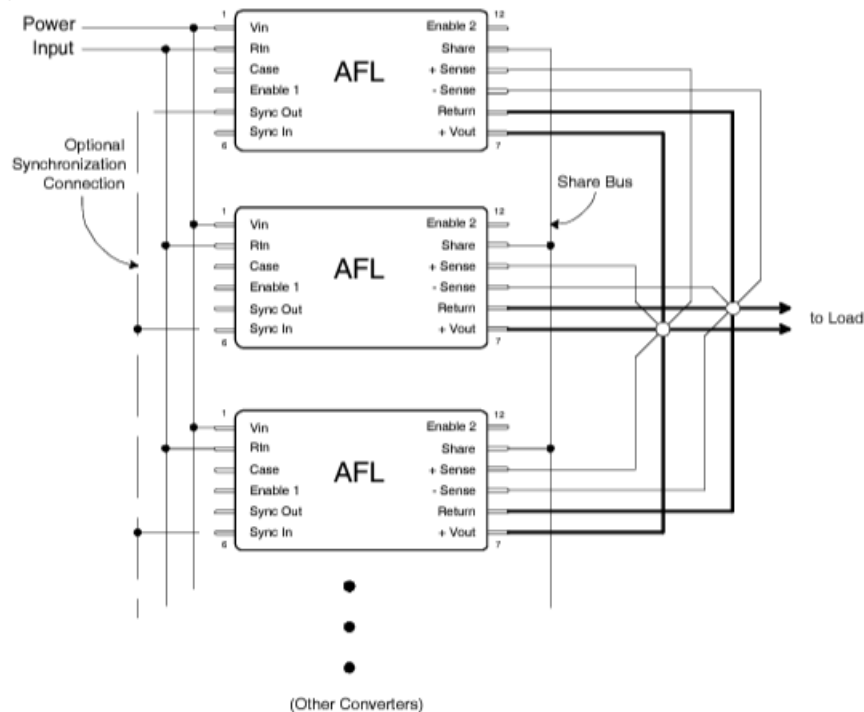

Figure 3. Preferred Connection for Parallel Operation
Connection of the + and - sense leads at a remotely located load permits compensation for resistive voltage drop between the converter output and the load when they are physically separated by a significant distance. This connection allows regulation to the placard voltage at the point of application. When the remote sensing features is not used, the sense leads should be connected to their respective output terminals at the converter. Figure 3. illustrates a typical application.
5.0%. This signal is referenced to the input return and has been tailored to be compatible with the AFL sync input port. Transition times are less than 100ns and the low-level output impedance is less than 50Ω. This signal is active when the DC input voltage is within the specified operating range and the converter is not inhibited. This output has adequate drive reserve to synchronize at least five additional converters. A typical synchronization connection option is illustrated in Figure 3.
Figure 3. illustrates the preferred connection scheme for operation of a set of AFL converters with outputs operating in parallel. Use of this connection permits equal sharing of a load current exceeding the capacity of an individual AFL among the members of the set. An important feature of the AFL series operating in the parallel mode is that in addition to sharing the current, the stress induced by temperature will also be shared. Thus, if one member of a paralleled set is operating at a higher case temperature, the current it provides to the load will be reduced as compensation for the temperature induced stress on that device.
When operating in the shared mode, it is important that symmetry of connection be maintained as an assurance of optimum load sharing performance. Thus, converter outputs should be connected to the load with equal lengths of wire of the same gauge and sense leads from each converter should be connected to a common physical point, preferably at the load along with the converter output and return leads. All converters in a paralleled set must have their share pins connected together. This arrangement is diagrammatically illustrated in Figure 3. showing the outputs and sense pins connected at a star point which is located close as possible to the load.